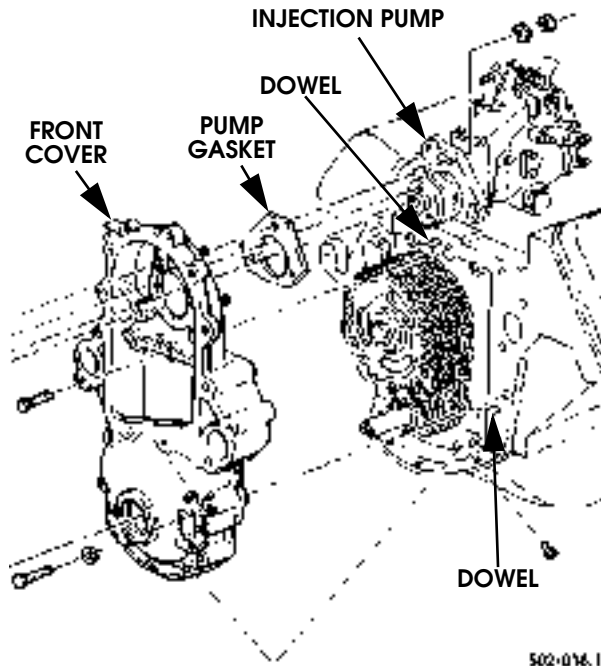

Figure 2-28: Front Cover Mounting
8. Install front cover on engine block (Figure 2-28). Be sure cover is fully seated on engine block dowels, engine block, and oil pan, before installing cover bolts.
10. Install injection pump gasket on front cover studs (Figure 2-28:).